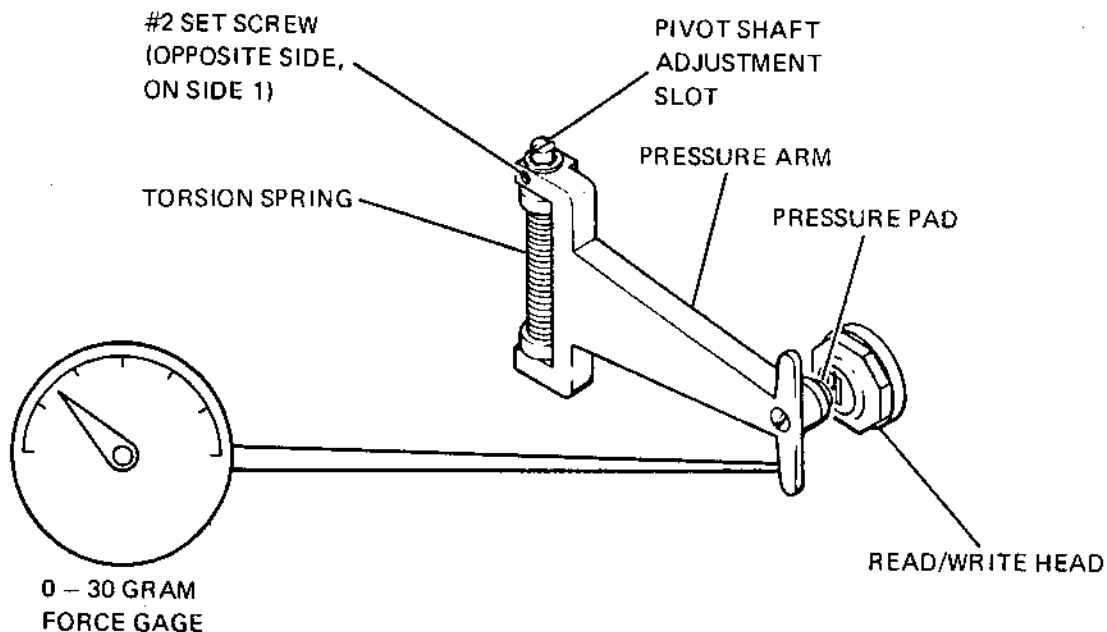

Figure 2-10. Head Pressure Arm Check
- b. Using a cantilever type force gage measure the arm spring force at the head. (Figure 2-10.)